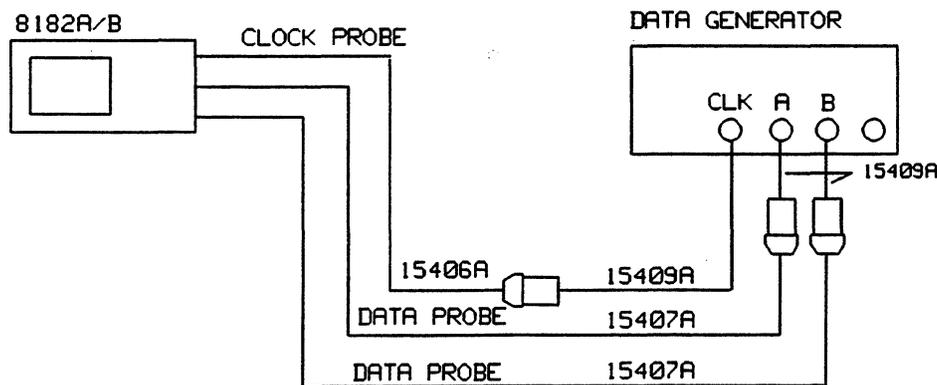

Figure 12-1. Test Setup for the Trigger Word and Operating Mode Test
8. Connect the equipment as shown in Figure 12-1 and press RUN.